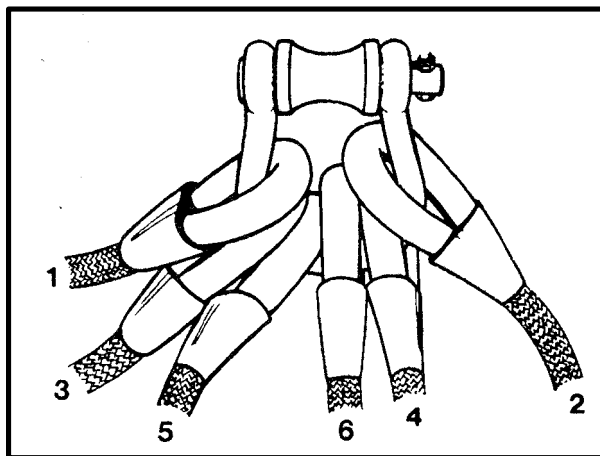

Figure 6-5. Sling Leg Numbering Sequence
(6) Four nylon rope legs are usually attached to the apex fitting. Six rope legs can be attached to one apex fitting if the load requires it. In order to keep the sling legs from becoming tangled, sling legs are numbered in the following sequence: 1 and 2 are the outer sling legs, 3 and 4 are the inner sling legs, and if necessary, 5 and 6 are the innermost sling legs (Figure 6-5). Odd-numbered sling legs are connected to the left side of the load; therefore, they are on the left side of the apex. Apex fittings can be interchanged between both sling sets as long as the apex fitting capacity is greater than the load weight. If a load is rigged with only one sling leg, you can attach the top eyelet of the sling leg directly on the cargo hook, eliminating the need for the apex fitting.